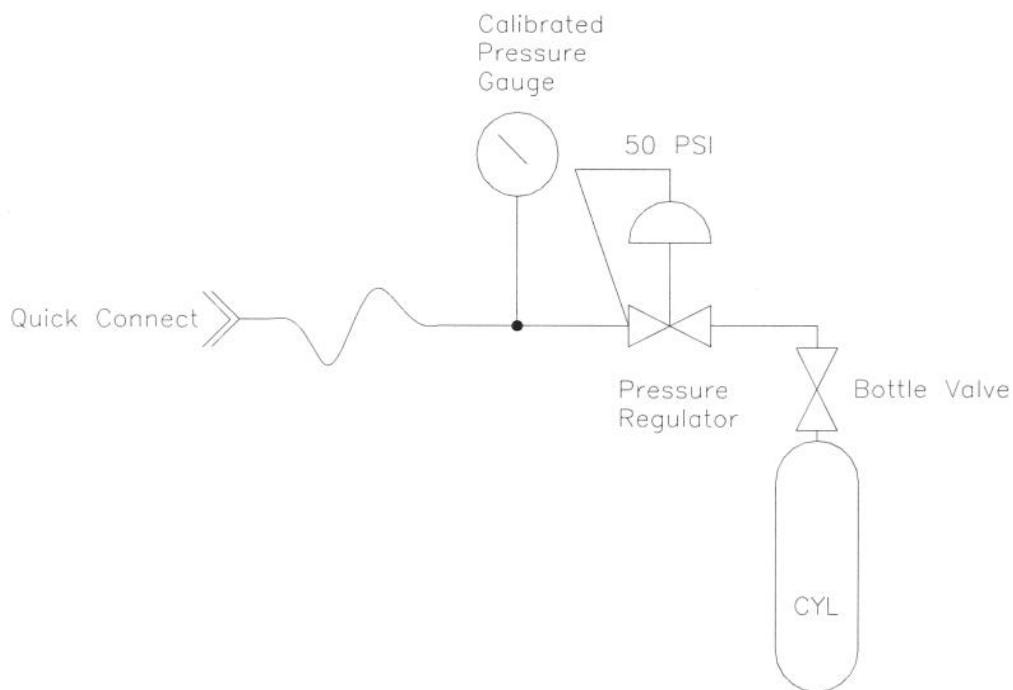

Figure 1. Test Equipment Setup
1. On the oxygen source bottle valve, connect the pressure regulator (see Figure 1.).